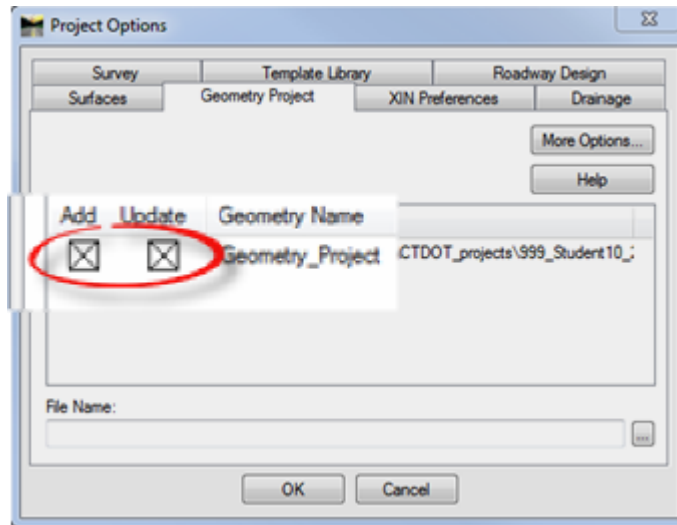

Figure 1-8 InRoads Project Options Dialog Box
- L. Save files in the RWK (Project) file. Click to **File > Save As** on the InRoads Menu Bar. In the Save As box select Projects (*.rwk) from the pull down for Save as type: . Click the **Options...** button on the lower right corner of the Save As dialog box. The Project Options dialog box (Figure 1-8) will appear. Check **Add** and **Update** and click on each file under file name for all the files listed under each tab. When the Surfaces tab appears, only click on **Add** for the Existing surface only. (Proposed surfaces will be created later in the design process. These files will need to be checked off under Add and Update columns).